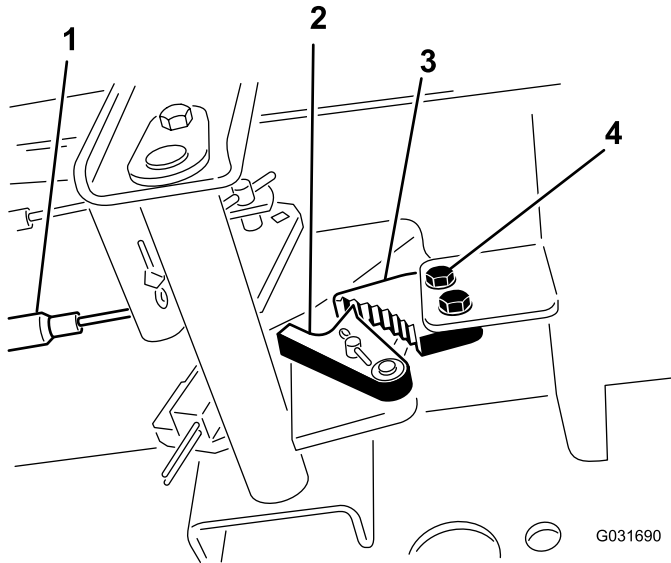

Figure 53
1. Loosen the 2 screws securing the parking-brake pawl to the frame (Figure 53).
2. Press the parking-brake pedal forward until the brake detent completely engages on the brake pawl (Figure 53).